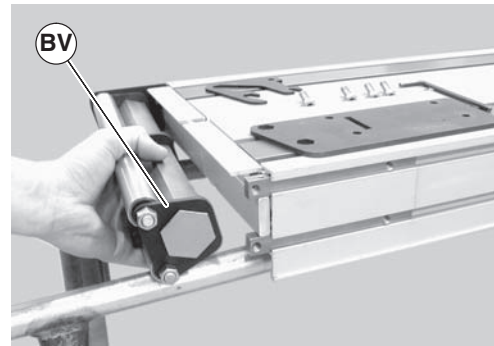

Figure 58
4. Slide the transfer tail pulley assembly (Figure 58, item BV) out of the headplate on the opposite side.